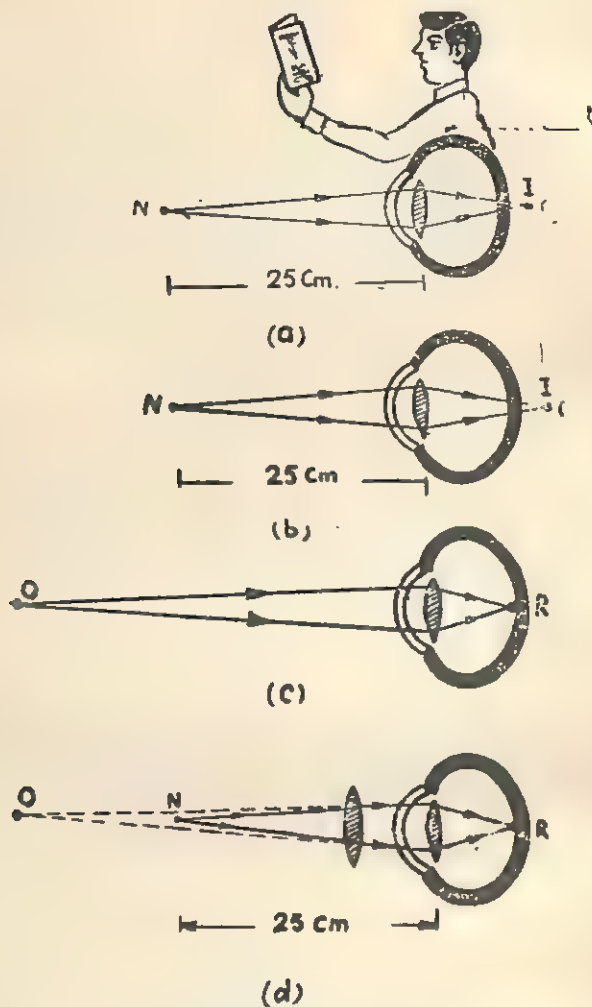

Fig. 11.3. For a hypermetropic eye the eye-ball is too short (Long-sight defect).
(i) **Long Sightedness.** Long sightedness is caused by the *eye-ball being too short* as shown in Fig. 11.3 (a). If a book is held at 25 cm. (i.e. at the *near point N* of a normal eye) from such an eye it will appear blurred because for this distance a clear image is formed at a point I only behind the retina as shown in Fig. 11.3 (a) and (b). The **Near Point** for such an eye is at O which is farther than 25 cm. as shown in Fig. 11.3 (c). This kind of defect of vision is also called *Hypermetropia*. This defect of vision is also called *far sightedness* because the person can see clearly the **far off** objects.
The reader keeps the book farther from his eye to see the print distinctly in this type of defect when he does not use specs as shown in Fig. 11.3 (a).
**Correction.** A *long sighted* eye is corrected by the use of a convergent lens of suitable focal length. This convergent lens converges the rays entering the eye just sufficiently to make the rays appear as if these are coming from the eye's own near point O as shown in Fig. 11.3 (d).